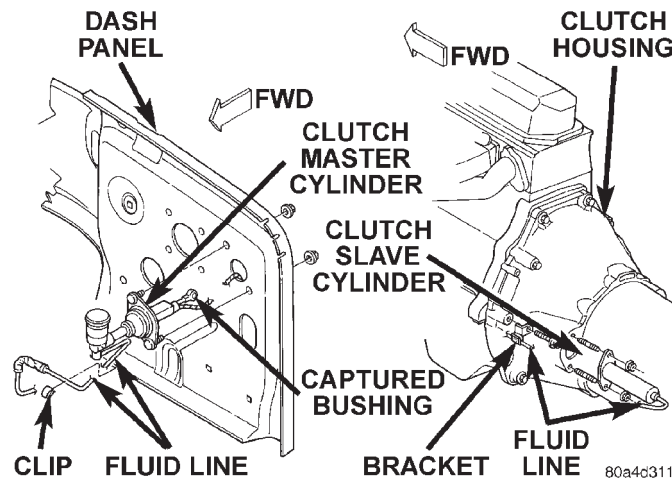
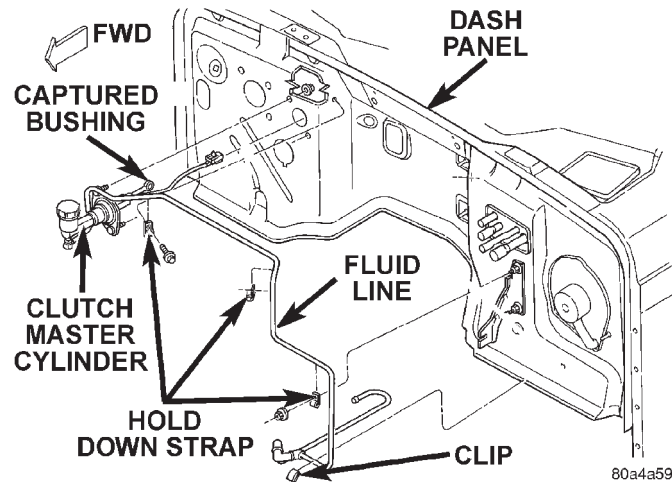

Fig. 7 Slave Cylinder and Left Hand Drive Clutch Master Cylinder
Fig. 8 Right Hand Drive Clutch Master Cylinder
- (1) Raise vehicle.
- (2) Remove fasteners attaching slave cylinder to clutch housing.
- (3) Remove slave cylinder from clutch housing (Fig. 7).
- (4) Disengage clutch fluid line from body clips.
- (5) Lower vehicle.
- (6) Verify that cap on clutch master cylinder reservoir is tight. This is necessary to avoid spilling fluid during removal.
- (7) Remove clutch master cylinder attaching nuts (Fig. 7) or (Fig. 8).
- (8) Disengage captured bushing on clutch master cylinder actuator from pivot pin on pedal arm.
- (9) Slide actuator off pivot pin.
- (1) Be sure reservoir cover on clutch master cylinder is tight to avoid spills.
- (2) Position clutch linkage components in vehicle. Work connecting line and slave cylinder downward past engine and adjacent to clutch housing (Fig. 7) or (Fig. 8).
- (3) Position clutch master cylinder on dash panel (Fig. 7) or (Fig. 8).
- (4) Attach clutch master cylinder actuator to pivot pin on clutch pedal.
- (5) Install and tighten clutch master cylinder attaching nuts to 38 N·m (28 ft. lbs.) torque.
- (6) Raise vehicle.
- (7) Insert slave cylinder push rod through clutch housing opening and into release lever. Be sure cap on end of rod is securely engaged in lever. Check this before installing cylinder attaching nuts.
- (8) Install and tighten slave cylinder attaching nuts to 23 N·m (17 ft. lbs.) torque.
- (9) Secure clutch fluid line in body and transmission clips.
- (10) Lower vehicle.
- (11) Connect clutch interlock safety switch wires.